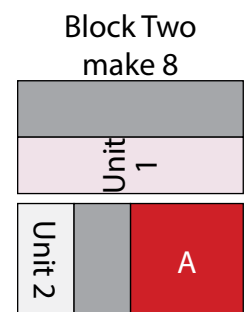

Fig. 4
4. Sew (1) Unit 2 square to the left side of (1) 8 ½" Fabric A square. Sew (1) Unit 1 strip to the top of the newly sewn strip lengthwise to make (1) 16 ½" Block Two square (Fig. 4). Repeat to make (8) Block Two squares total.